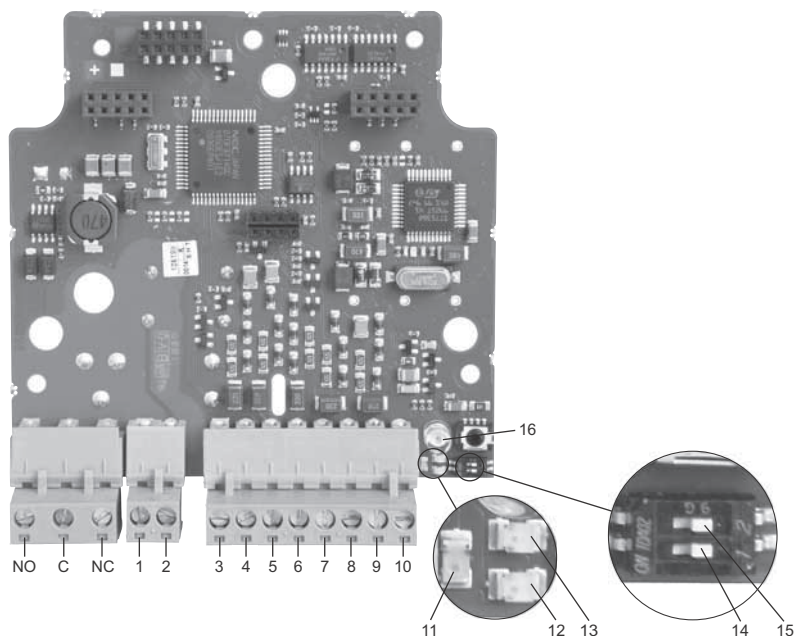

Fig. 4 IO module
The terminals on the IO module are described in the following sections. See also fig. 4.
The IO module has one digital input (with NO/NC options) that can be used for detection of high water level. Before the NC option can be used, it must be enabled by setting the DIP switch to ON (left) (pos. 14). See fig. 4.
The input for external alarm (NO/NC) triggers the alarm relay as long as it is enabled. Before the NC option can be used, it must be enabled by setting the DIP switch to ON (left) (pos. 15). See fig. 4.